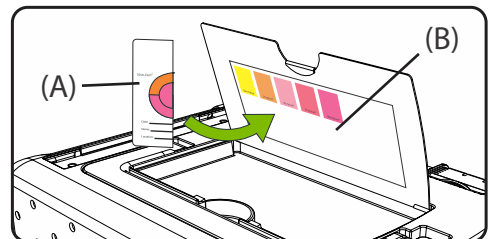

Figure 5 - Compare color of card to chart
4. After cycle is complete, peel card off wall. Compare the color of the test card (A) to the color reference chart found on the top cover of your UV Tech Tub® (Figure 5).
5. If the color region on the test card matches the correct color as indicated by the color reference chart (B) then your UV Tech Tub® is working normally. If the color region on the test card does not match, please proceed to the TROUBLESHOOTING section for next steps.